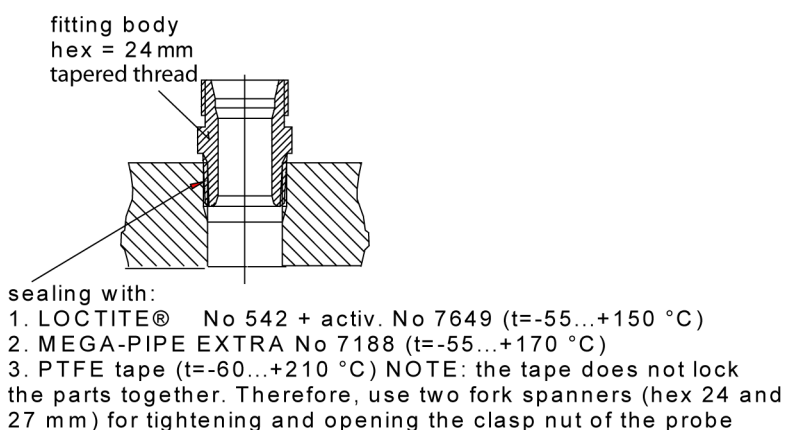

Figure 14 Sealing of Fitting Body into Process
3. Seal the threads on the fitting body; refer to Figure 14 on page 33.